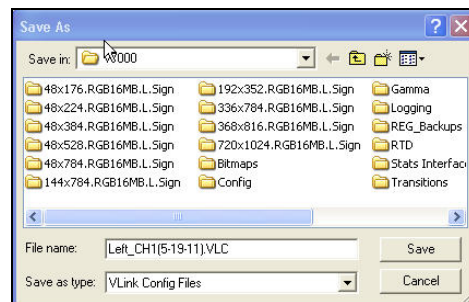

Figure 28: Saving .VLC File
- Browse to the location where you intend to save the .VLC file. Choose a descriptive name for the .VLC file that would make it easy to determine which .VLC files go to which VIP and which channels. It is also recommended to include the date. For example, a .VLC file for Channel 1 on a VIP that controls the left display half might be named **Left_CH1(5-19-11).VLC**. Refer to **Figure 28**. Click **Save** when finished.